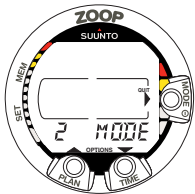

Fig. 4.1. Main menu based Mode options. [2 MODE].
1. Activate the menu based modes by pressing once the SMART (MODE) button in the Dive Mode (Fig. 4.1.).